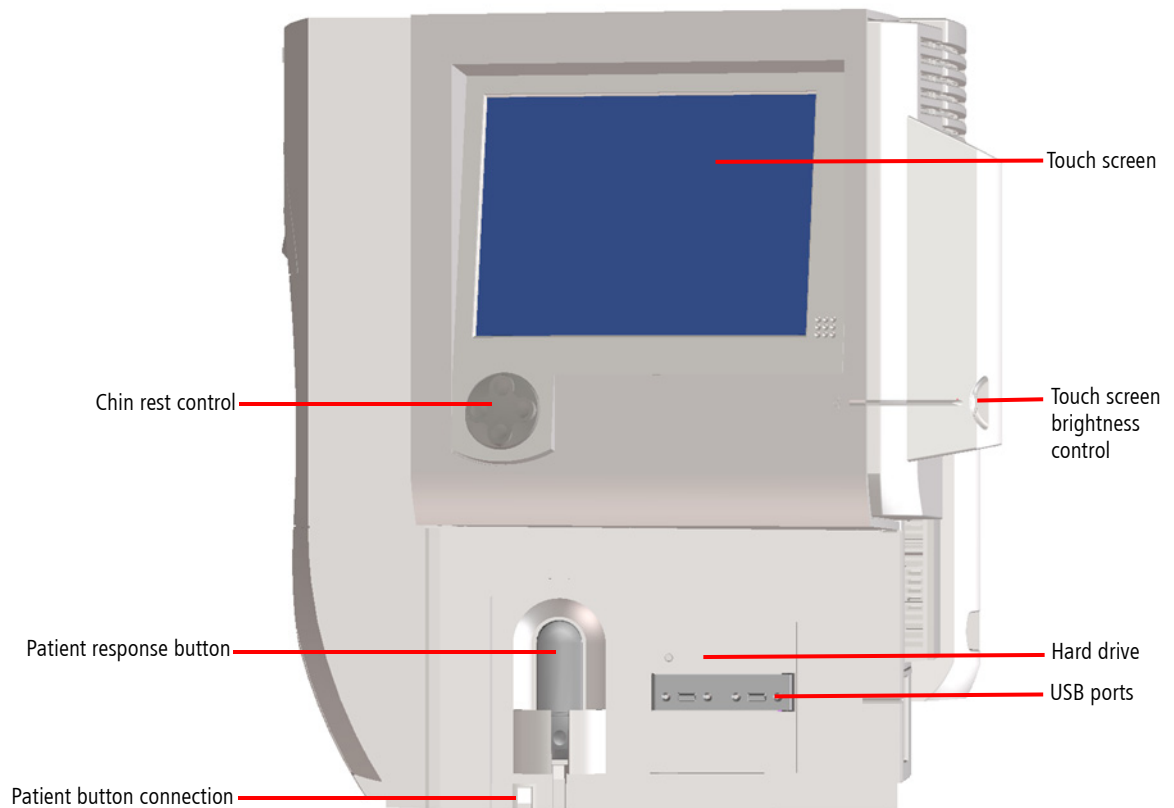
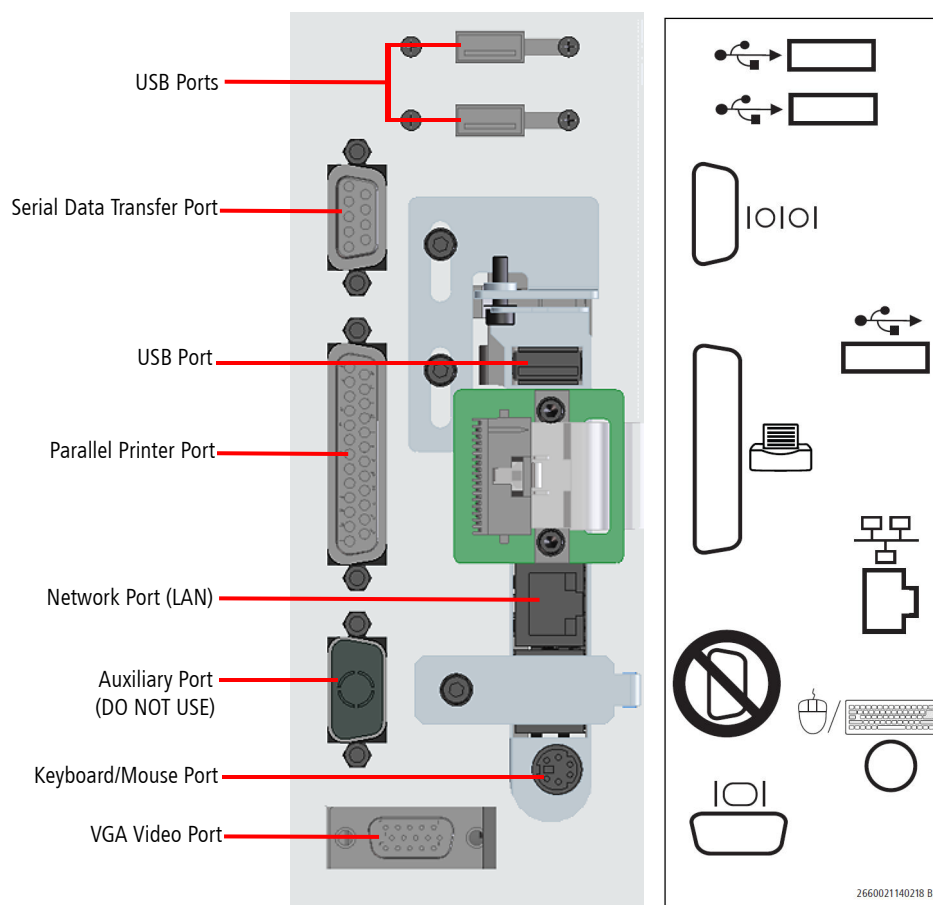

Figure 1.4 The HFA II-i – Side View
Figure 1.8 Enlarged View of Cable Connections Panel and Label on Rear of HFA II-i
1. With power off to the table and HFA II-*i*, connect the printer interface cable to the Printrex printer and to the Printer port on the HFA II-*i*. Attach the power cord to the special outlet below the table for the table mounted Printrex printer. Refer to Figure 1.8, Figure 1.9, and Figure 1.10.
1. With power off to the HFA II-*i*, connect the interface cable to the Printer port on the HFA II-*i* (refer to Figure 1.8 and Figure 1.9) and the printer (refer to Hewlett-Packard printer manual).
The HFA II Model 750-*i* comes standard with an external keyboard and glidepad combination. This factory keyboard/glidepad is also available as an option for any of the other models of HFA II-*i* perimeters. The keyboard easily plugs into the back of the HFA II-*i* (refer to Figure 1.8 and Figure 1.9 for the location of the connector) with the use of the included PS/2 splitter adapter. Use these steps to connect the keyboard:
The HFA II-*i* has five USB ports for connecting removable USB storage devices (USB flash drives and/or USB hard drives) and USB floppy drives. The side of the HFA II-*i* has two USB ports (see Figure 1.4), and the rear has three USB ports on the cable connections panel (see Figure 1.8). All removable USB storage devices and USB floppy disk drives are hot-swappable—they can be connected and removed without needing to restart the HFA II-*i*. Up to five USB storage devices can be connected, but only two can be available to use. When you insert a USB storage device, the device is automatically connected and its device name appears in a button or drop-down list for selection. If two or more USB storage devices are already connected to the HFA II-*i*, you must remove all of them and then insert the new one for it to be available for use.
Your HFA II-*i* allows you to connect an external VGA monitor. This can be very useful for training purposes, where you wish to allow easier viewing for large groups of people. Commands issued with the keyboard and glidepad can be seen on the external screen. Touch screen capability is not available on the external monitor. The HFA II-*i* touch screen remains available for use when using the external monitor. Output to the external monitor will display in black & white, even when using a color monitor. Connection of the VGA monitor is made to the VGA video port found on the back of the HFA II-*i*. Refer to Figure 1.8 and Figure 1.9.
External devices connect to the HFA II-*i* at the rear of the instrument and are hidden from view behind a panel. Figure 1.4, Figure 1.8, and Figure 1.9 show the location and identification of many of the connectors that previously were mentioned. On the rear of the HFA II-*i*, a diagram next to the cable connections panel helps to identify each port. External input devices such as the glidepad, trackball, mouse and the keyboard require a PS/2 style plug for connection to the HFA II-*i*. Use the Serial Data Transfer port to plug in an older Model HFA I or HFA II for serial transfer of data. Use the Network (LAN) port for connection of PC-based communications and networking. Use the USB ports to connect USB storage devices and/or USB floppy disk drives. Use the VGA video port for connection of any external VGA monitor.
- 1 Open the panel on the back of HFA II-*i*. Connect the printer cable to the Printrex printer and to the HFA II-*i* at rear of the unit (see close-up view in Figure 1.8).
- 6 Attach Patient Response Button see Figure 1.4 for connector location).